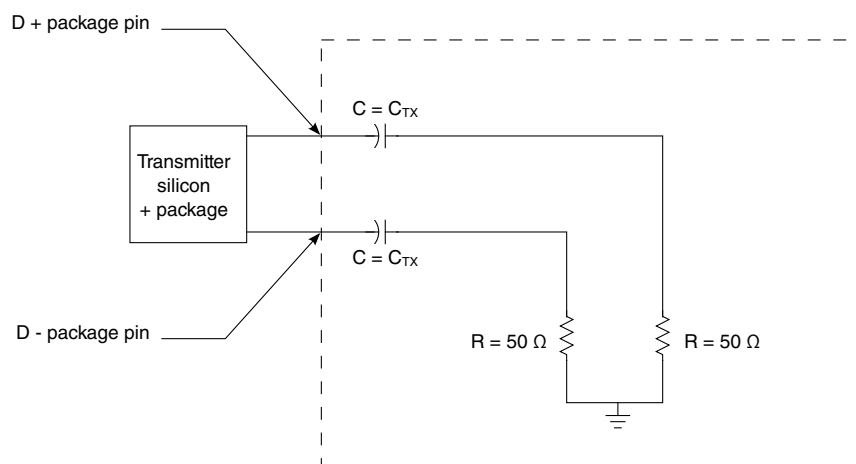

Figure 87. Test and measurement load
| 1. Specified at the measurement point into a timing and voltage test load as shown in Figure 87 and measured over any 250 consecutive transmitter UIs. | | | | | | |
- Specified at the measurement point into a timing and voltage test load as shown in Figure 87 and measured over any 250 consecutive transmitter UIs.
| <p>1. Specified at the measurement point and measured over any 250 consecutive UIs. The test load in Figure 87 must be used as the receiver device when taking measurements. If the clocks to the receiver and transmitter are not derived from the same reference clock, the transmitter UI recovered from 3500 consecutive UI must be used as a reference for the eye diagram.</p> <p>2. A $T_{RX-EYE} = 0.40$ UI provides for a total sum of 0.60 UI deterministic and random jitter budget for the transmitter and interconnect collected any 250 consecutive UIs. The $T_{RX-EYE-MEDIAN-to-MAX-JITTER}$ specification ensures a jitter distribution in which the median and the maximum deviation from the median is less than half of the total. UI jitter budget collected over any 250 consecutive transmitter UIs. It must be noted that the median is not the same as the mean. The jitter median describes the point in time where the number of jitter points on either side is approximately equal as opposed to the averaged time value. If the clocks to the receiver and transmitter are not derived from the same reference clock, the transmitter UI recovered from 3500 consecutive UI must be used as the reference for the eye diagram.</p> <p>3. It is recommended that the recovered transmitter UI is calculated using all edges in the 3500 consecutive UI interval with a fit algorithm using a minimization merit function. Least squares and median deviation fits have worked well with experimental and simulated data.</p> <p>4. For recommended operating conditions, see Table 4.</p> | | | | | | |